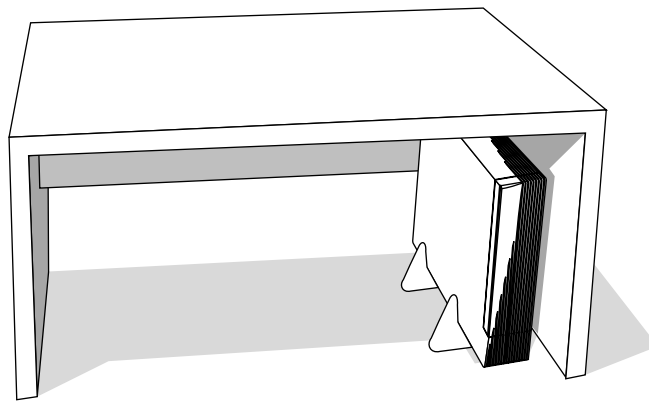

Figure 10-2 Placing Your Workstation Under Your Desk
5. Tip the workstation down onto the floor so that it rests on the stand. Place it under or beside your desk or workspace, as shown in Figure 10-2.